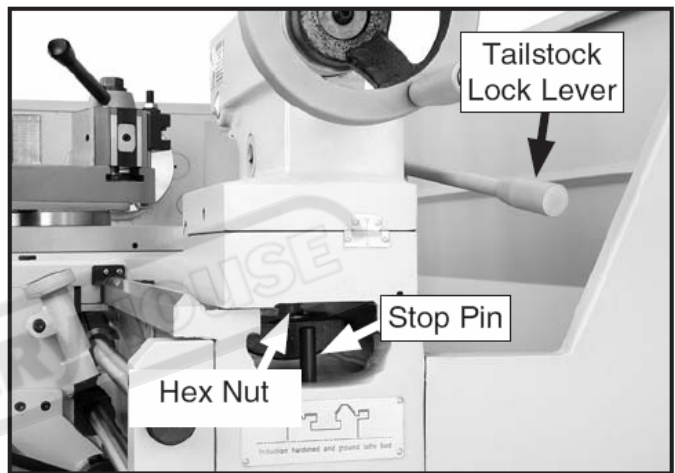

Figure 69
1. Unthread the stop pin (see **Figure 69**), and carefully slide the tailstock from the lathe.